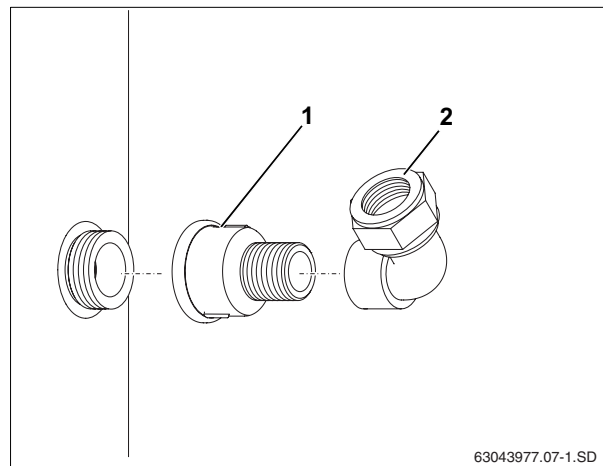

Fig. 6 Connecting the reducing coupling and elbow compression fitting to the cylinder
- Fit reducing coupling (Fig. 6, **Item 1**) and elbow compression fitting (Fig. 6, **Item 2**) to the tank.